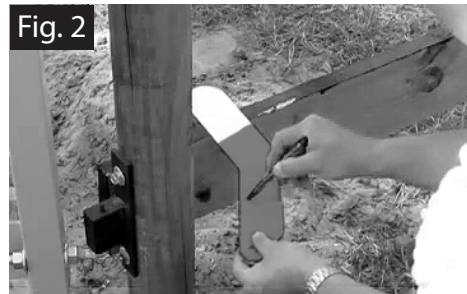

Fig. 3
5. Using a measuring tape, measure vertically to find the center of the horizontal mount on the gate, then place a mark. [See Fig. 3]